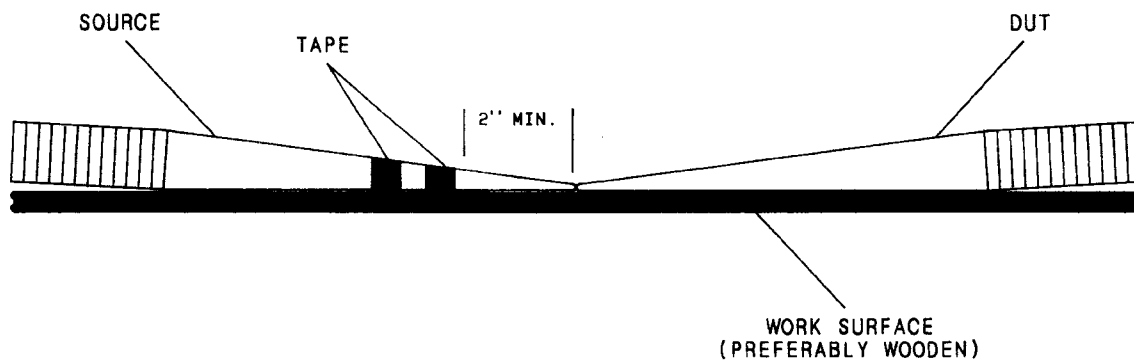

Figure 13. Probe Orientation for Insertion Loss Test
3. Physically align the probes as shown in figures 13 and 14. The identification label of the DUT should face upward. This alignment illuminates one of the sense loops of the DUT with a magnetic field.